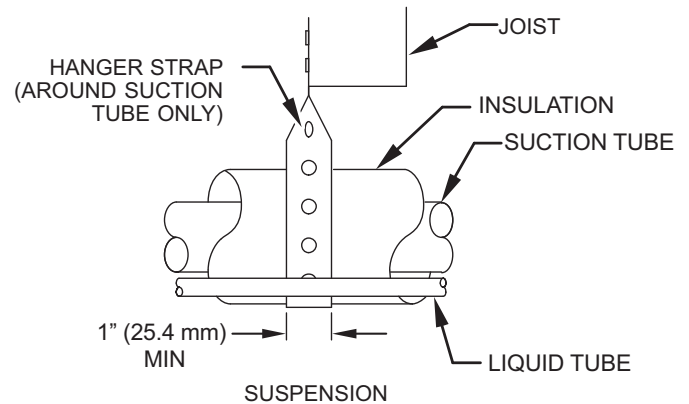

Fig. 1 – Connecting Tubing Installation
8. When passing refrigerant tubes through the wall, seal opening with RTV or other pliable silicon-based caulk (see Fig. 1).
10. Do not suspend refrigerant tubing from joists and studs with a rigid wire or strap which comes in direct contact with tubing (see Fig. 1).
12. When necessary, use hanger straps which are 1 in. (25 mm) wide and conform to shape of tubing insulation. (See Fig. 1)